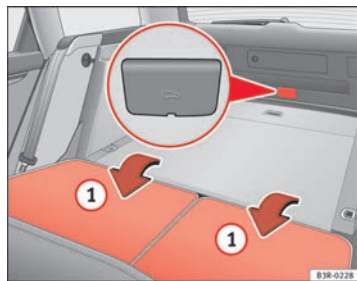

Fig. 75 Detail of the rear seats and luggage compartment: access to the emergency release mechanism
- Fold down both rear backrests ① ⇒ fig. 75.